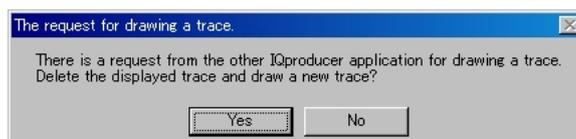

Figure 3.5-6 Confirmation Message
- (1) Set **Clear** for **Quick Add Mode** on the lower-left of the Time Domain screen.
- (2) Select **Time Domain** from the **Simulation** menu or click the  tool button. The confirmation message shown in Figure 3.5-6 below appears: